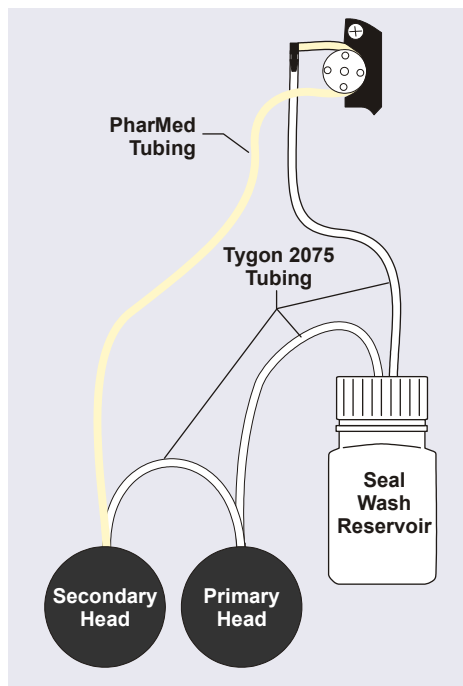

Figure 10-11. Piston Seal Wash Tubing Connections
6. Pull off all seal wash tubing from the seal wash reservoir and the primary and secondary pump heads (see Figure 10-11).
8. Connect the new tubing pieces to the seal wash reservoir and pump heads (see Figure 10-11).